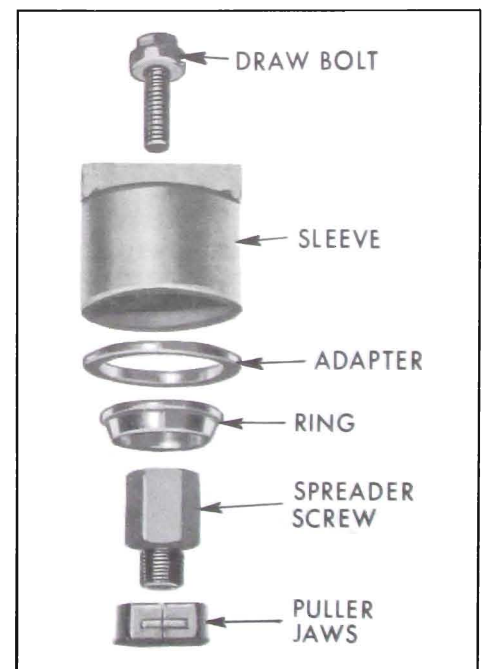

Fig. 6-56—Proper Position of J-6552 Parts
8. If a differential bearing is to be replaced, pull bearing outer race from case with Remover J-6552 using the following procedure: (See Figures 6-56 and 6-57).